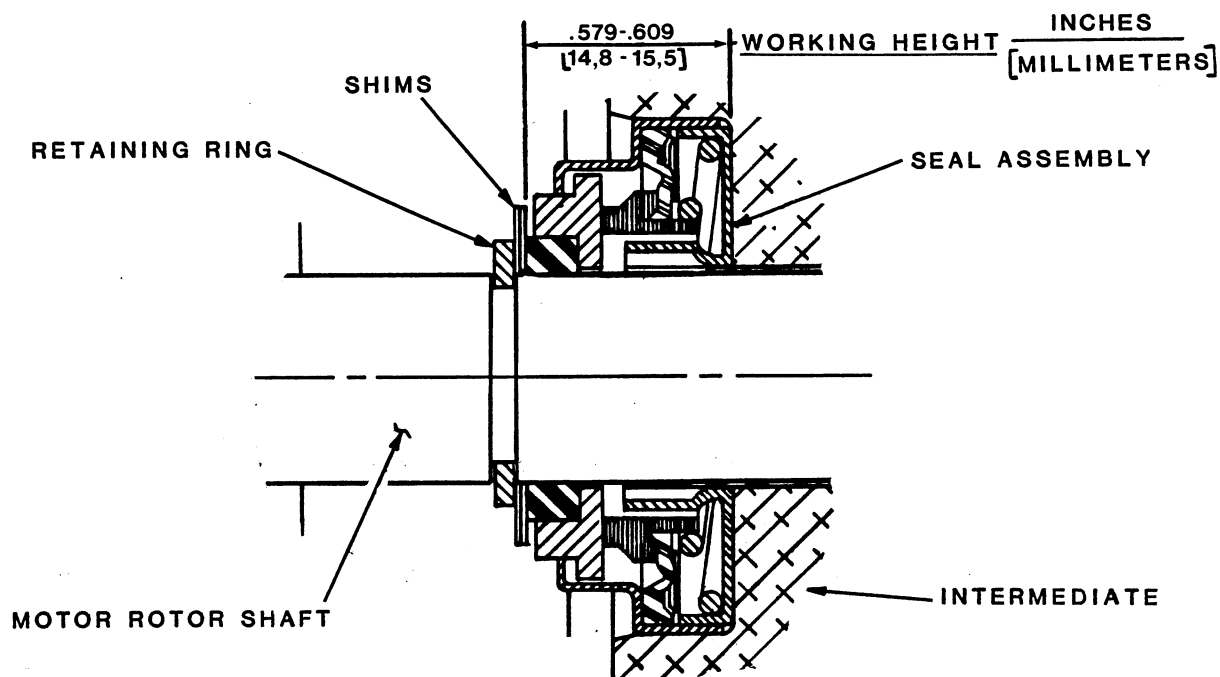

Figure 4. Inner Seal Assembly 25276-011
Select the required combination of shims (39) to obtain a seal working height of 0.579 to 0.609 inches as shown in Figure 4. This distance is measured from the bottom of the bore in intermediate (29) to the motor side of shims (39) when the retaining ring (40) is installed.